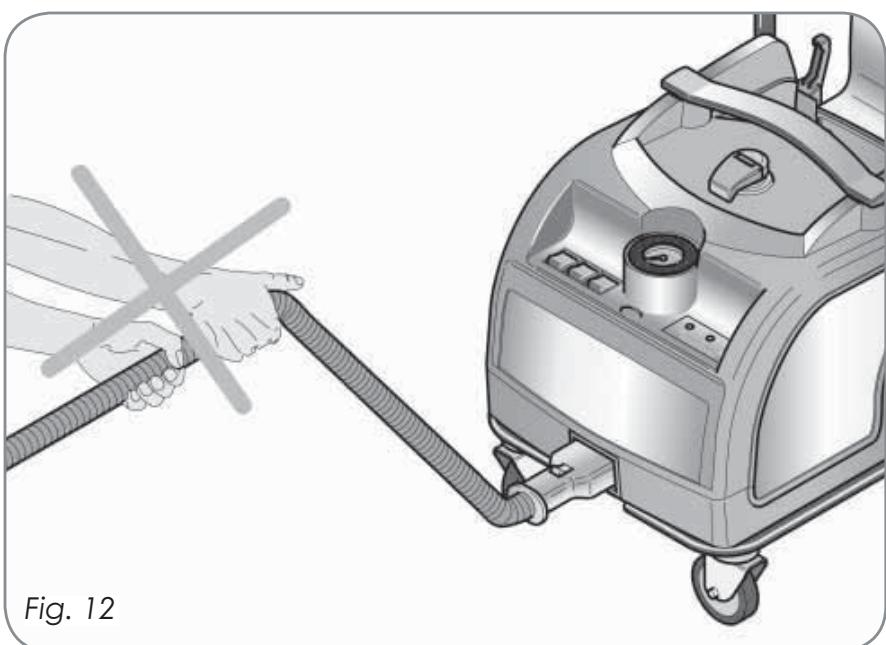

Fig. 12
**Absolutely do not use the hose to pull the machine (Fig.12).**